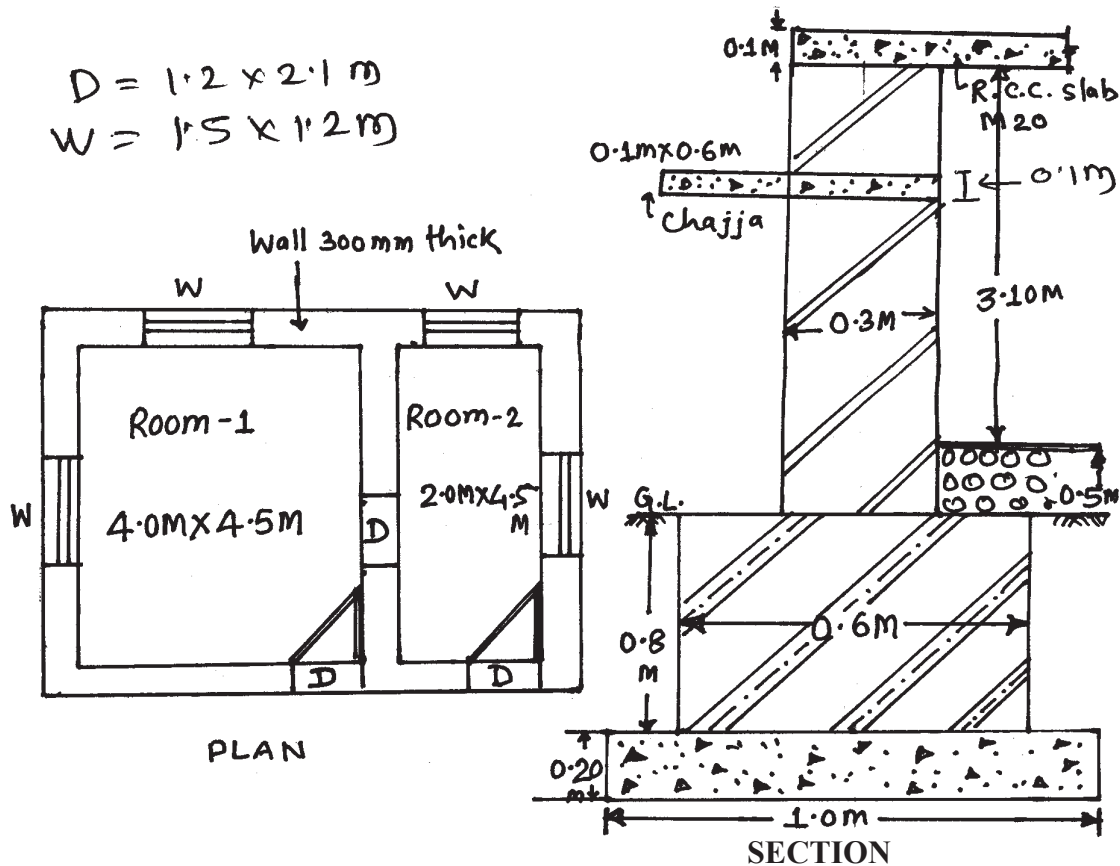

Fig. No. 2
a) Calculate the quantities of items from Fig. No. 2.